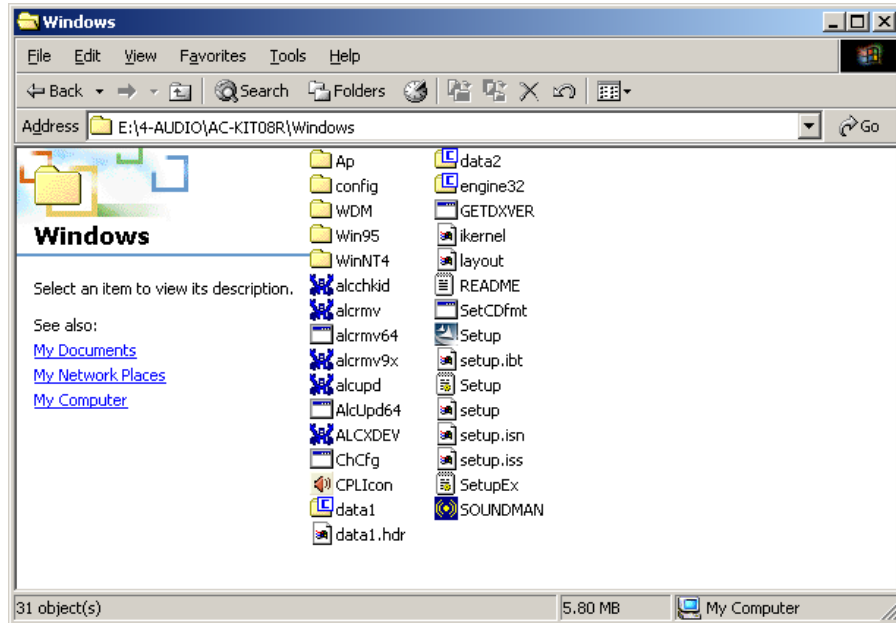

Figure 6-19: CD 4-AUDIO\AC-KIT08R\Windows Folder
Step 2: From the main driver menu, navigate to **X:\4-AUDIO\AC-KIT08R\Windows** (or other appropriate OS). **X:** represents the system CD drive. A new window appears showing the folder contents (Figure 6-19).